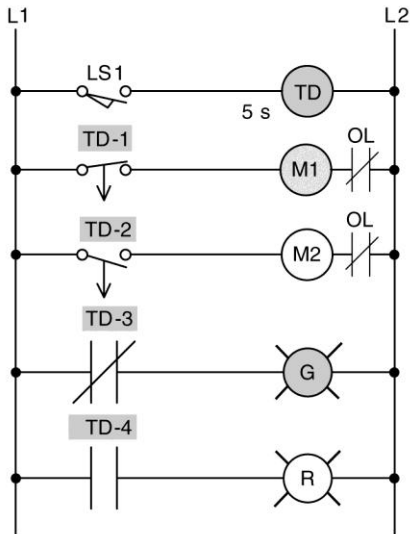

Figure 7-23 Hardwired off-delay timer circuit for assignment 7.
7) Prepare an I/O connection diagram and ladder logic program to execute the hardwired off-delay timer circuit shown in Figure 7-23. Enter the program into the PLC, and prove its operation.